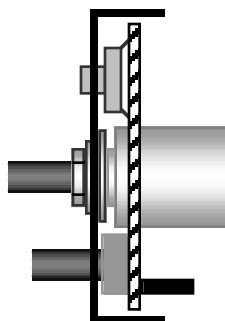

Figure 5-12
- ☐ Insert the Front Panel PC board assembly into the front panel (Figure 5-12). The push-button switch caps should protrude slightly.